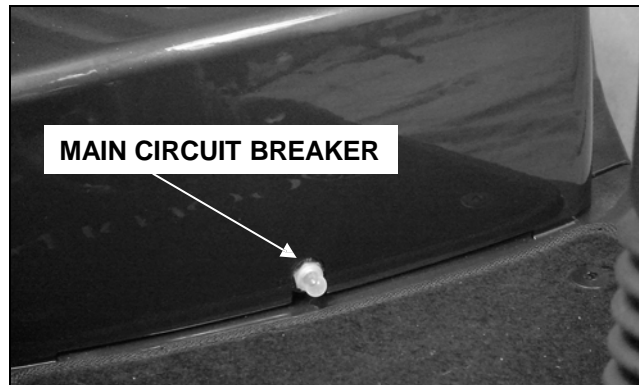

FIGURE 33. MAIN CIRCUIT BREAKER
The 50-amp main circuit breaker reset button is located under the seat on the front of the rear shroud panel. See figure 33.
4. Press in on the main circuit breaker reset button. See figure 33 on page 31.